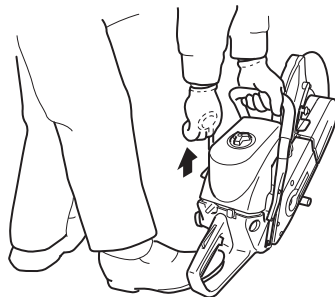

Figure 10. Secure the unit for starting.
6. Secure the unit by placing your right foot inside the rear handle and your left hand on the front handle. See Figure 10.